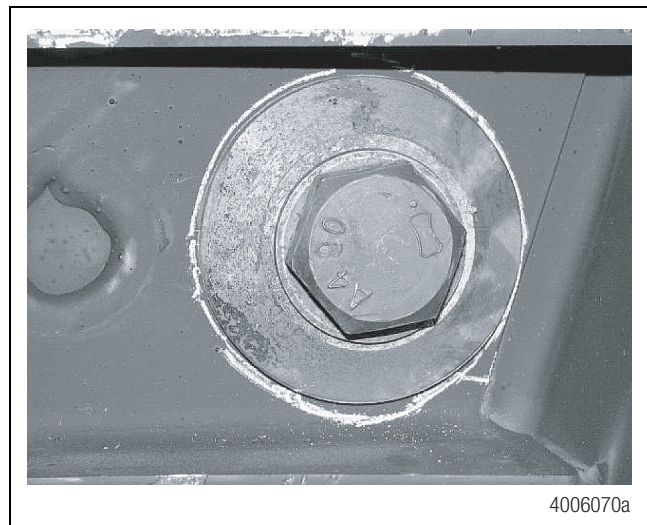

Figure 15
5. Mark the diameter of the washer with a soap stone using the alignment washers as the template. Verify the washer is 0.5-inch from the edge of the frame bracket. Do this both inside and outside. Figure 15.